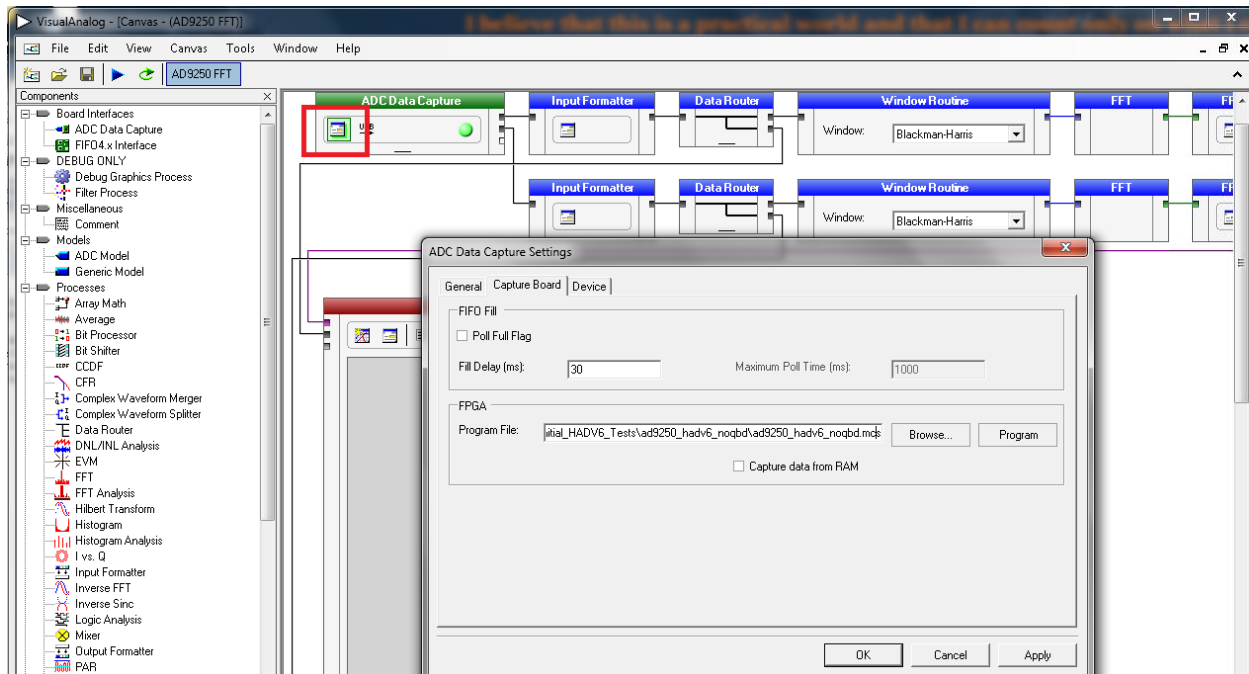

Figure 4. VisualAnalog, ADC Data Capture Settings Window
1. Optionally, you can reprogram the FPGA by selecting the **ADC Data Capture Settings** window and clicking the **Capture Board** tab (see the red box in Figure 4).